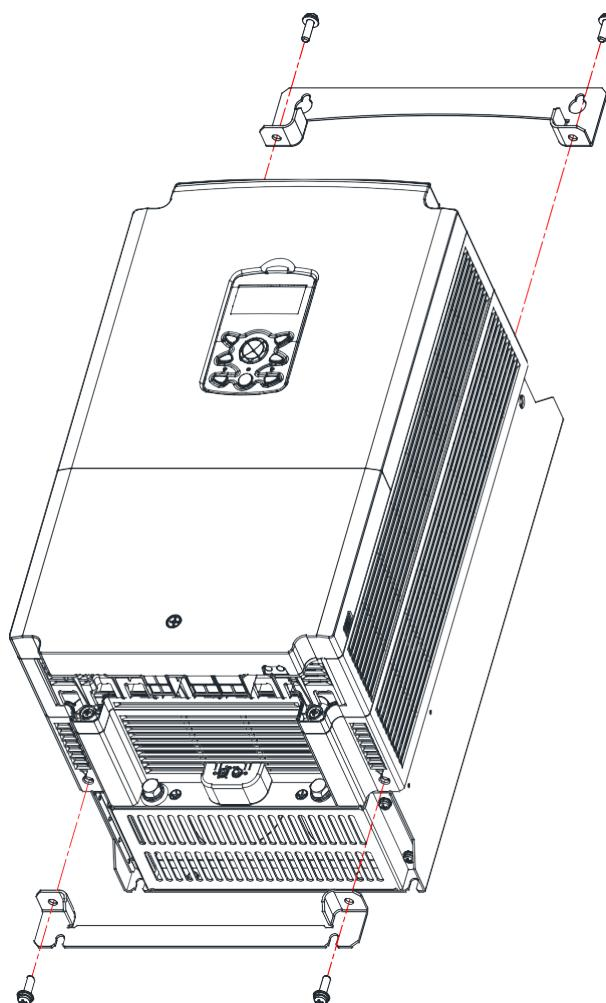

Figure 2. Installation
- ② Fasten the Flange Option with the remaining top and bottom pieces, using the remaining bolts.
- ① Insert the Flange Option to fit on the top and bottom of the base, fastening both of the positions as shown in Figure 2.